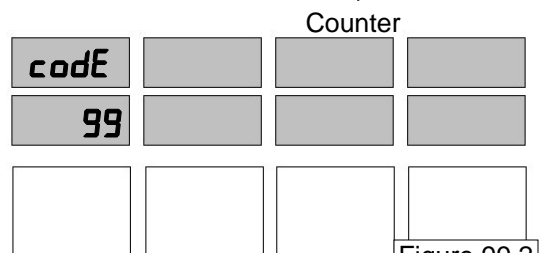

Figure 99.2
2. To change the setting, use the 1, 2 or 3 button on the keypad to enter a new option. Press **ENTER**. The display moves to the Decimal Place Configuration. See figure 99.2. The choice is 1 for three decimal places or 2 for two decimal places. *This only affects a dispenser set for gallons or liters*